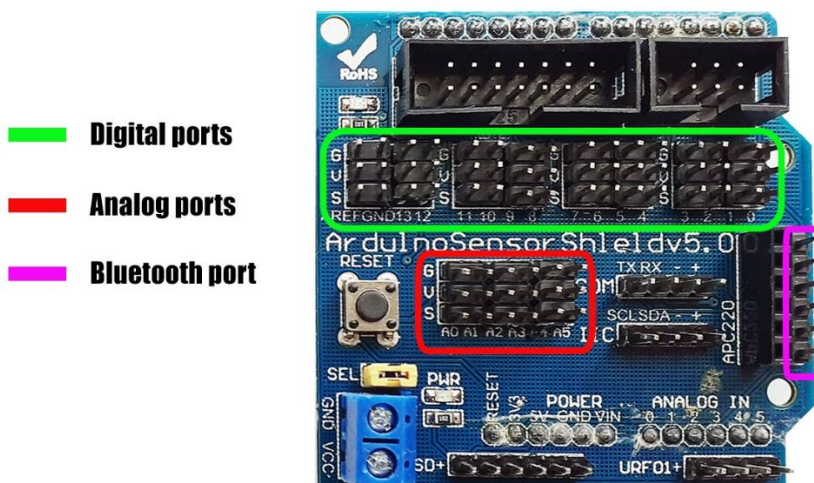

Figure 17: Diagram of the port
The Shield is an expansion that facilitates the circuit making process since it provides an easier way to connect sensors and servos. Specifically, it expands the digital and analog input pins of Arduino board with Power (V) and Ground (GND), and it also provides separate PWM pins. Moreover, it makes easier the connection of wireless and Bluetooth modules (Figure 17).